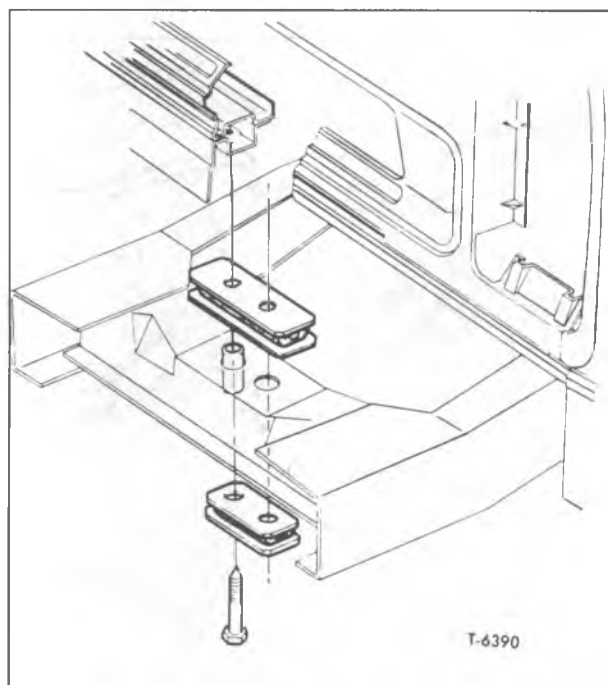

Figure 9—Sheet Metal Mounting Front End
7. Remove two bolts from underneath front frame crossmember and attachments securing sheet metal (see fig. 9).
CAUTION: Use care to prevent stripping threads when installing two bolts from underneath front frame crossmember (fig. 9). This could cause retaining nuts to loosen, and it would be necessary to remove the radiator.
5. Tighten the sheet metal mounting bolt 35 to 55 foot-pounds torque (fig. 9).